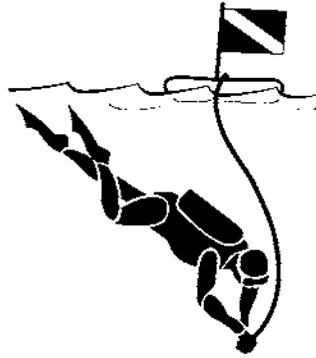

FIGURE 2-12 DIVER-DOWN FLOAT
11. Stay at least 150 feet away from areas marked by a diver-down float (Figure 2-12).